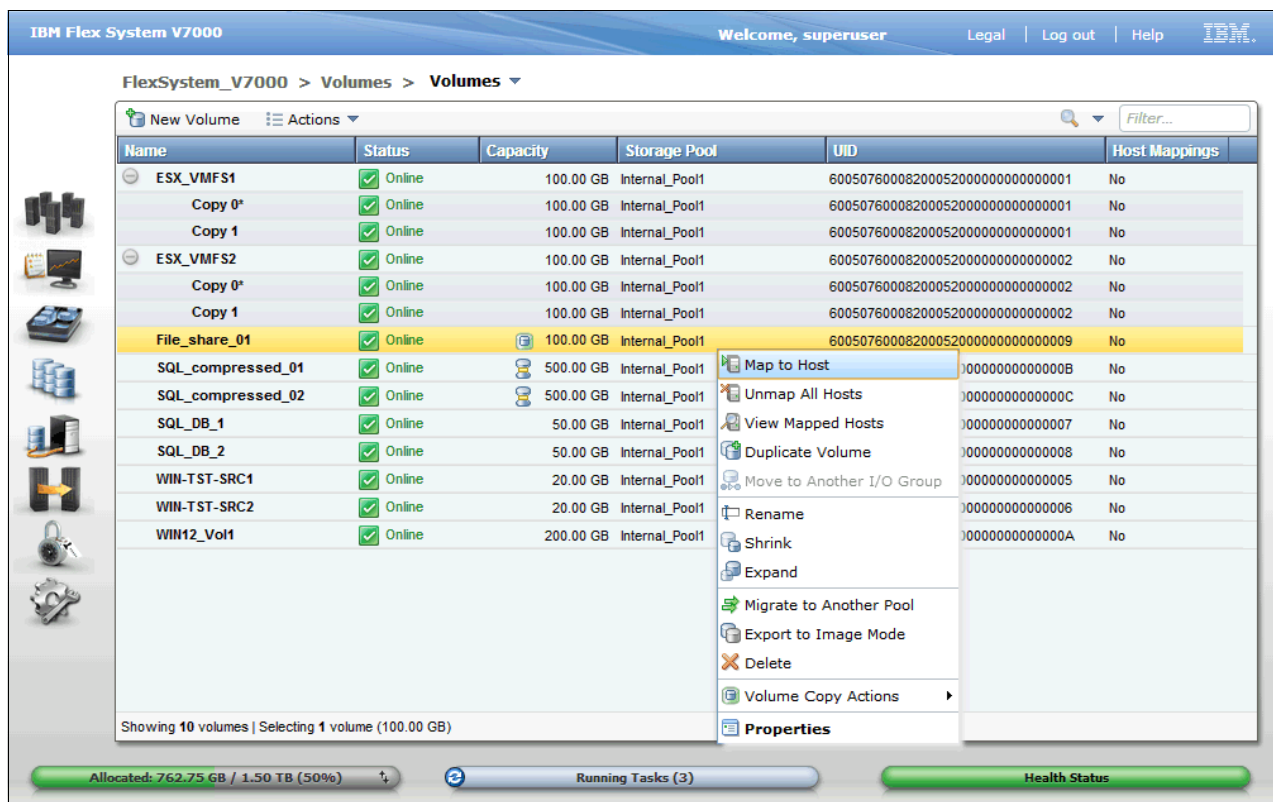

Figure 6-31 The volumes menu - map to host
1. From the volumes menu select a volume and click either **Actions** and **Map to Host** or right-click and select **Map to host** as shown in Figure 6-31.